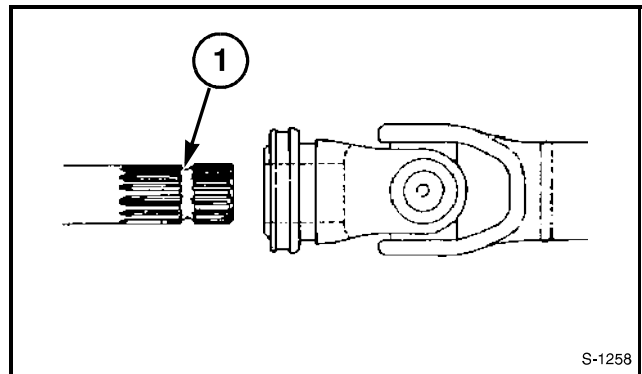

FIG. 19
FIG. 19: Release the locking ring and pull back and forth on the driveline to make sure that the coupling is locked in the annular groove (1) on the countershaft.